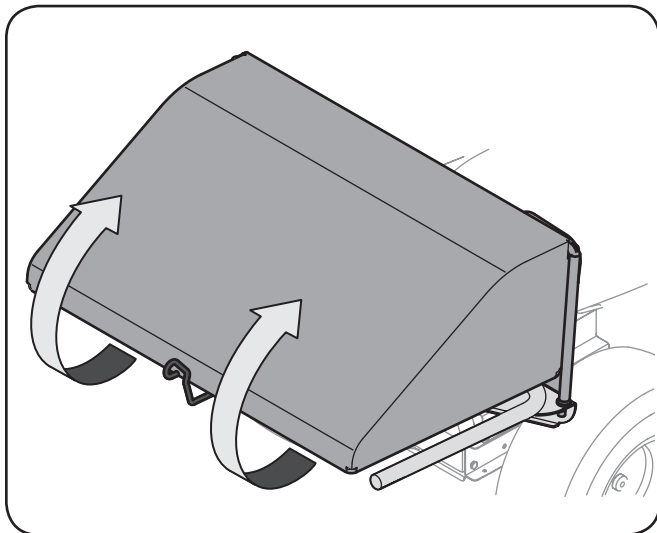

Figure 5-1
1. Open the grass bag cover by lifting the lower rear of the cover and pivoting it upwards. It is not necessary to remove the discharge chute in order to empty the grass bags. See Fig. 5-1.